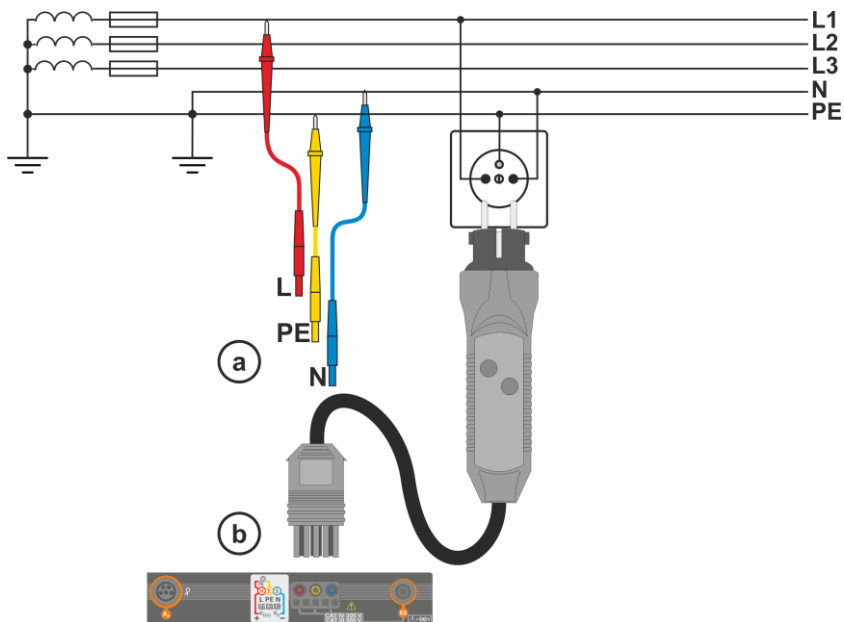

Fig. 3.1 Measurement in L-PE circuit
- 1 Connect test leads according to **Fig. 3.1** or **Fig. 3.2**.